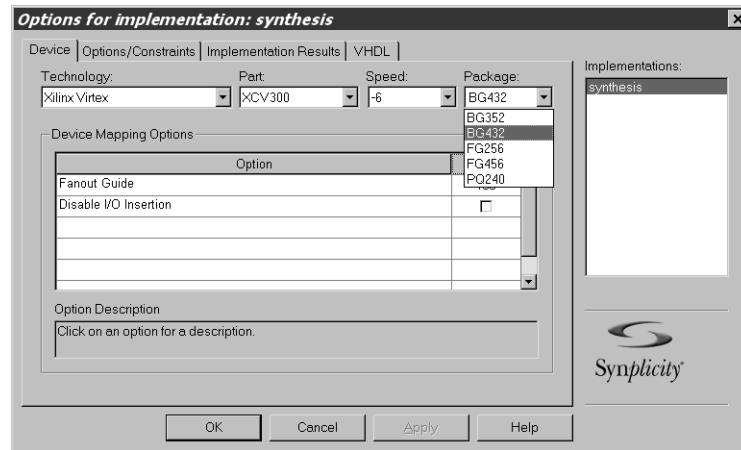

Figure 5-17: Options for Implementation
- From the main project window, click Change Target to display the Options for Implementation dialog box, as shown in Figure 5-17.